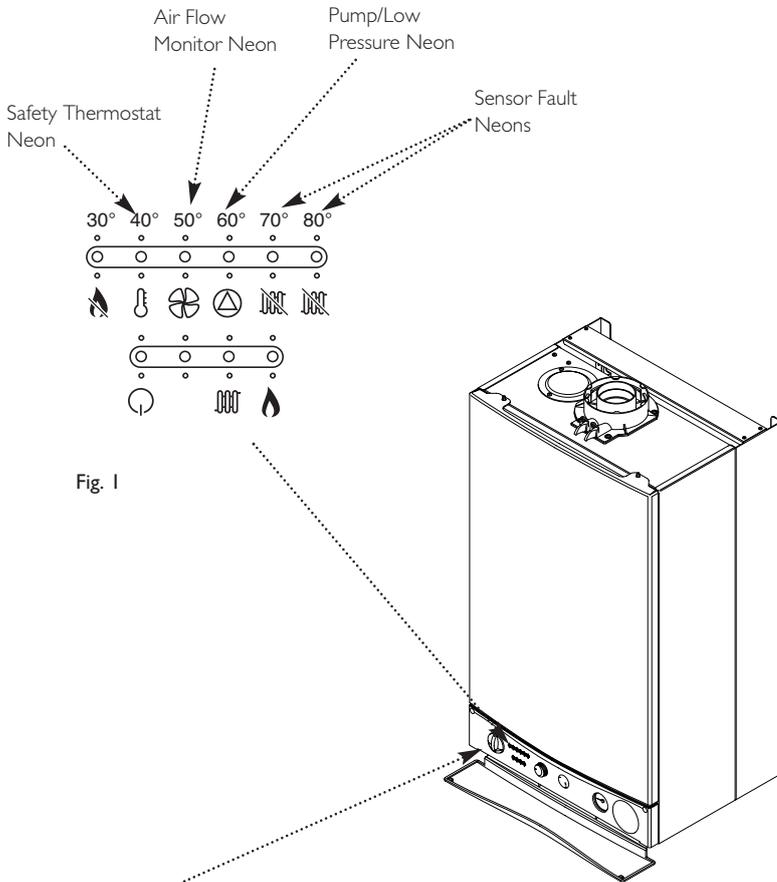

Fig. 1
2. If the (  ) neon illuminates it indicates that the flue or flue terminal is blocked or obstructed in some way, or that there is an internal fault. If there is no external blockage of the flue terminal that can be easily removed contact your Installer or Service Engineer (Fig. 1).
1. The neon (  ) will illuminate if the circulating pump is faulty or the system pressure drops below the minimum requirement (Fig. 1).
1. When either of the the (  ) neons is illuminated a fault on one of the temperature sensors is indicated (Fig. 1). Contact your Installer or Service Engineer.
1. Your Main System HE is fitted with an additional safety devices, which shut down the boiler in the event of the system, boiler or flue overheating. The safety thermostat neon (  ) will light in this instance (Fig. 1).